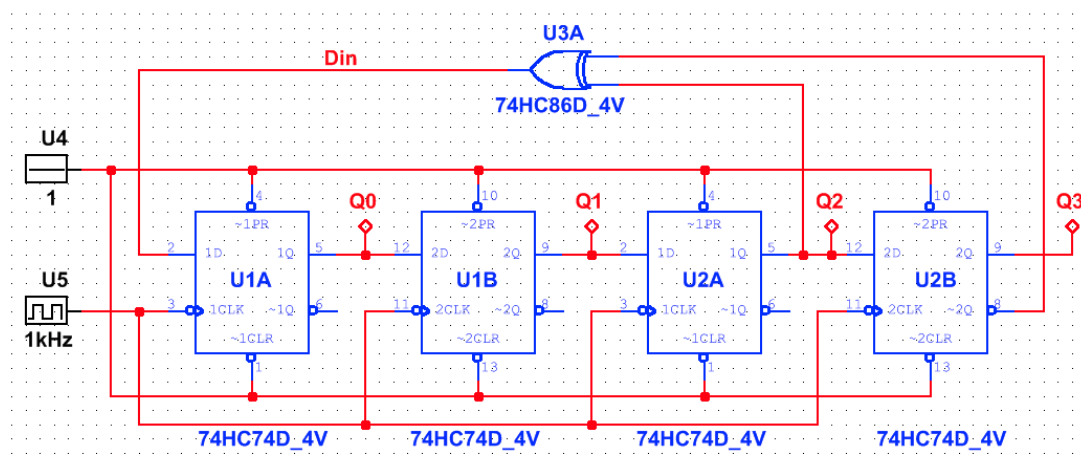
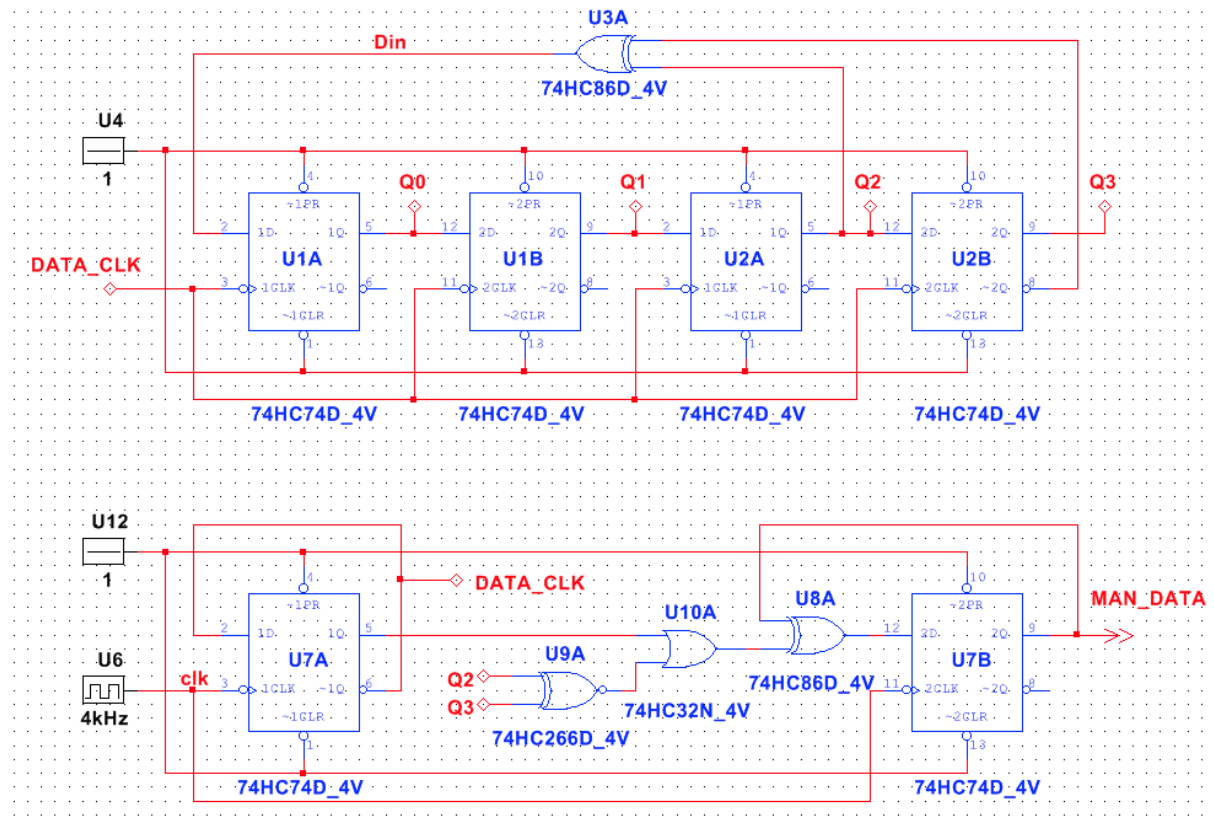

FIGURE 5: Maximum length linear feedback shift register
FIGURE 6: Manchester encoded LFSR sequence
17. What is the sequence length of the LFSR in figure 5?
21. For both the LFSR circuit in figure 5 and the Manchester encoding circuit in figure 6, compute the maximum propagation delay through the circuit. To do this consider the time it takes for all parts of the circuit to stabilise after a clock edge is applied.
Create a new blank design and draw the schematic of the LFSR shown in figure 5. You will use 74HC-series ICs, which can be found in the CMOS group of components. In the simulator these ICs come with the power supply already connected, but you can only choose from a fixed set of supply voltages (2V, 4V or 6V) - use the 4V versions (74HC\_4V). You will also need to add some digital sources to the schematic: these are found in the DIGITAL\_SOURCES family of the *Sources* group of components. The digital constant value can be set by double-clicking on it, as can the clock frequency.
Manchester encoding is attractive in that by encoding a '0' as  $\overline{\square}$  and a '1' as  $\square$  it is easy to recover the clock signal from the data stream at the receiver. However, it should be remembered that it is not the most optimal encoding scheme in terms of bandwidth utilisation. Create a copy of your LFSR design, by saving as a different name, and add the Manchester encoder to the schematic as shown in figure 6. Here you should use *on-page connectors* to avoid having lots of wires crossing each other. You can place such a connector by right clicking and selecting from the *place on schematic* list (or use